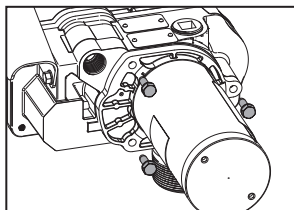

Figure 10
3. Remove the (3) $\frac{1}{4}$ -20 x $\frac{3}{4}$ in. SEMS screws and motor from the pump housing (see Figure 10).